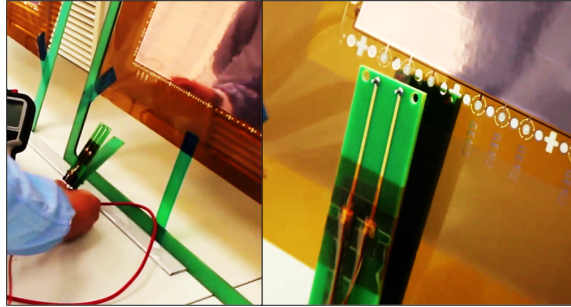
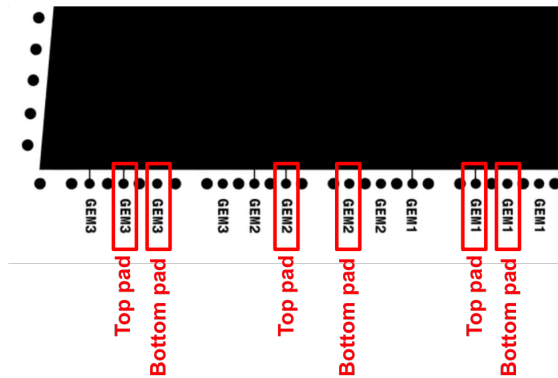

Figure 43: Mounting of the HV clip on the foil.
Figure 44: Location of the HV pads.
Step 4: In order to test the GEM foils, place the HV clip so that the HV pins are in contact with of the top and bottom part of the foil (Fig. 43). At this point, all of the HV pads are still connected to the active area of the foil. The location of these pads is shown on Fig. 44.